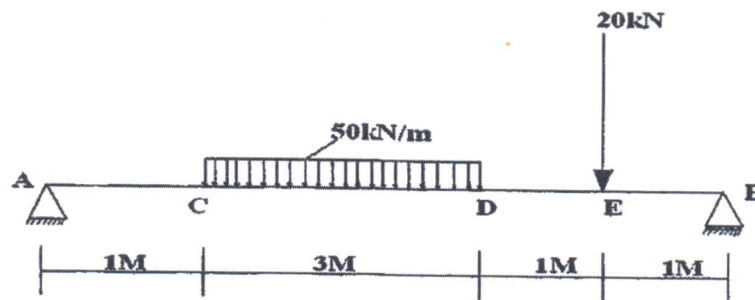

Fig. 6
- (b) Draw S.F.D. and B.M.D. for the beam as shown in fig. Indicate the numerical values at all important sections. Find the position of contraflexure, magnitude and position of maximum BM (Fig. 6). [9]